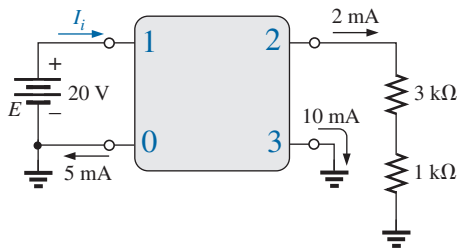

FIG. 5.126
- \*43. For the integrated circuit in Fig. 5.126, determine  $V_0$ ,  $V_{03}$ ,  $V_2$ ,  $V_{23}$ ,  $V_{12}$ , and  $I_i$ .